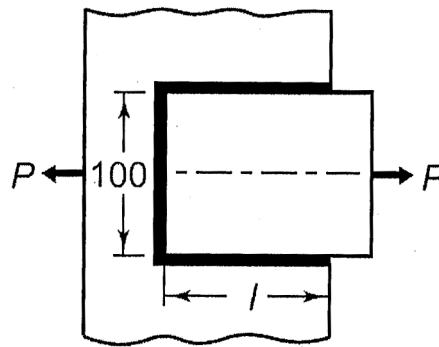

Fig. Q2a
- b) A steel plate, 100 mm wide and 10 mm thick, is joined with another steel plate by means of single transverse and double parallel fillet welds, as shown in Fig. Q2a. The strength of the welded joint should be equal to the strength of the plates to be joined. The permissible tensile and shear stresses for both weld material and the plates are 70 and 50 N/mm^2 respectively. Assuming the tensile force acting on the plates as static,